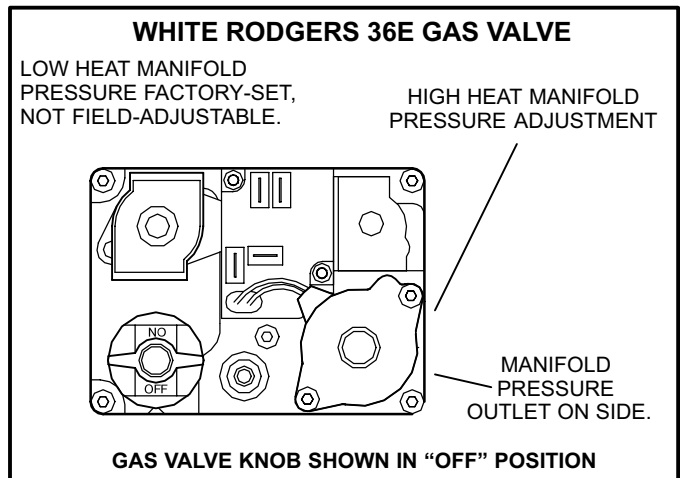

FIGURE 20
Gas Valve Operation - White Rodgers 36E Two-Stage Gas Valve (Figure 20)
- 2 - After the line pressure has been checked and adjusted, check the high heat regulator pressure on both gas valves. See figure 20 for gas pressure adjustment screw location. The low heat setting is factory-set and is not field-adjustable. The high heat manifold pressure settings are given in table 12.